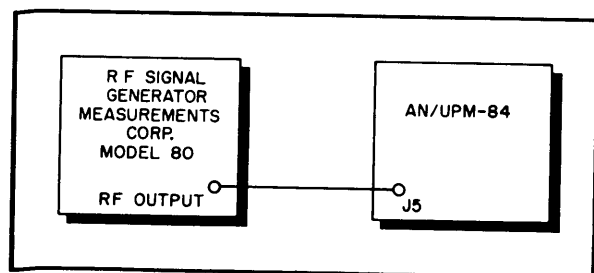

Figure 6-16. Alignment of Low Frequency Local-Oscillator, Test Set-up Diagram
d. If crystal current is normal, set the signal generator (figure 6-16) to 410 mc, at approximately -40 dbm output, and apply the output to DIRECT INPUT jack J5. The indicator pointer should be accurately referenced to the calibrated scale. Make certain to approach the 410 mc mark on the FREQUENCY drum in a clockwise direction, to minimize backlash errors.